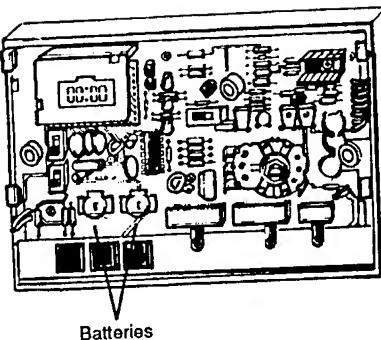

Figure 9. Battery location.
2. Locate the batteries above the time set button (see fig. 9).